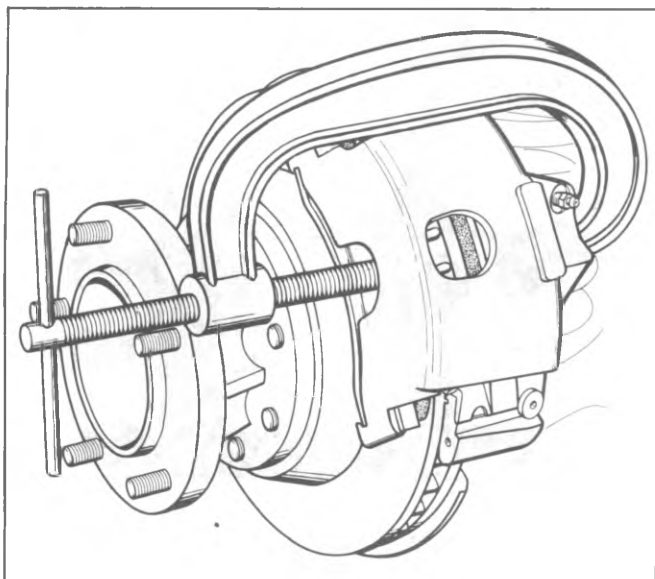

Fig. 5-32--Pushing Piston into Bore Using a "C" Clamp
3. Push the piston back into its bore. This can be accomplished by using a "C" clamp as shown in Figure 5-32.